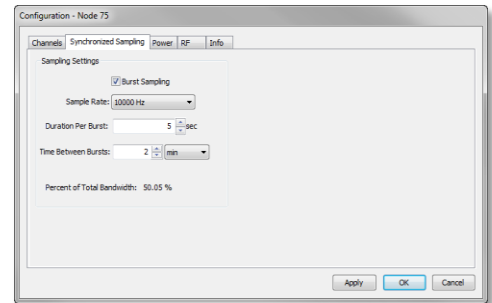

Figure 9: Synchronized Sampling tab
1. Click the Synchronized Sampling tab (Figure 9).